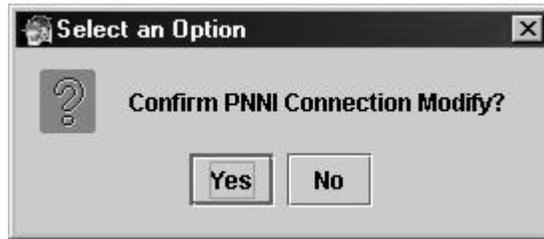

Figure 8-3: Confirm Modify PNNI Connection Dialog
3. Click **MODIFY**. The Select an Option dialog displays. See Figure 8-3.